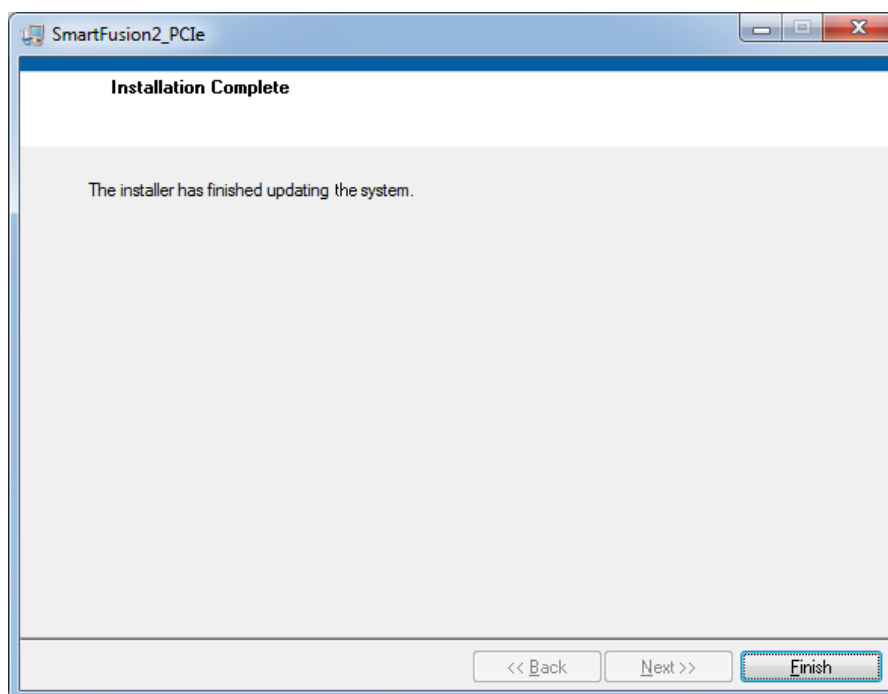

Figure 59 Successful GUI Installation
3. Click **Next** and **Finish** to complete the installation. Figure 59 shows the **Successful GUI Installation** window.